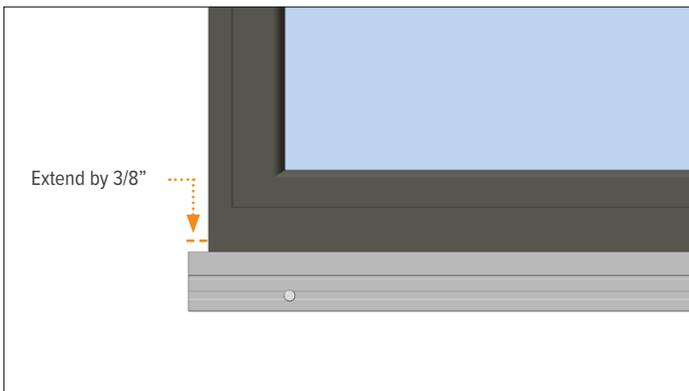

Figure 18.2
1. Place EZ.8 window sill trim at sill extending it 3/8" past both sides of window frame and fasten. (Figure 18.2) (see **Fastening Info**).